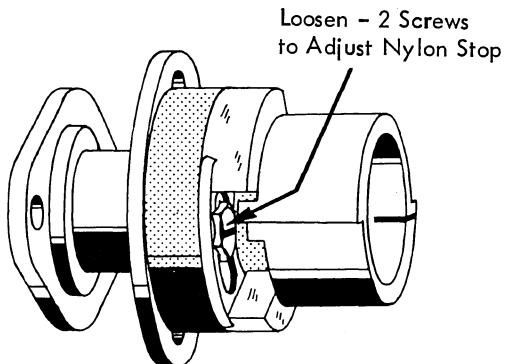

FIGURE 45. Cycle Clutch Overthrow Stop - Early
4. Cycle Clutch Overthrow Stop - With the cycle clutch latched and the cycle shaft backed up against the check pawl in its rest position, advance or retard the overthrow stop on the cycle clutch collar so that it will allow the cycle shaft to overthrow its latched position by .007" to .015" (Fig. 44-late or Fig. 45-early).